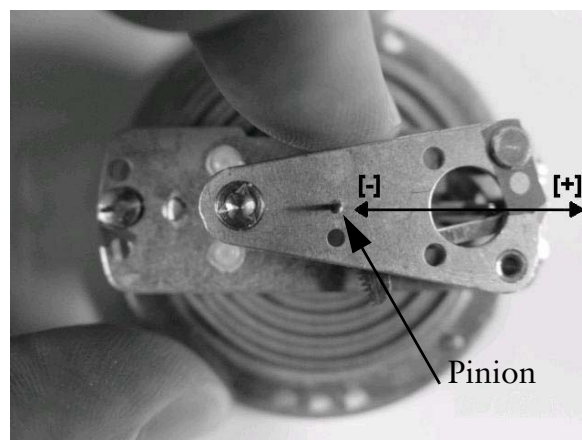

Figure 3-1. S&K span adjustment.
20. If the span is too low, using calibration tool (T18816), bend the adjustment pin away from pinion parallel to gear sector arm. See Figure 3-1. Release the pressure to 0. Make sure to re-adjust the test dial so that the pointer will be slightly left of the graduation line. Re-pressurize to 320 mmHg then to 300 mmHg to evaluate the effects of the adjustment.
21. If the span is too high, using calibration tool (T18816), bend the adjustment pin towards the pinion parallel to the gear sector arm. See Figure 3-1. Release the pressure to 0. Make sure to re-adjust the test dial so that the pointer will be slightly left of the graduation line. Re-pressurize to 320 mmHg then to 300 mmHg to evaluate effects of adjustment.